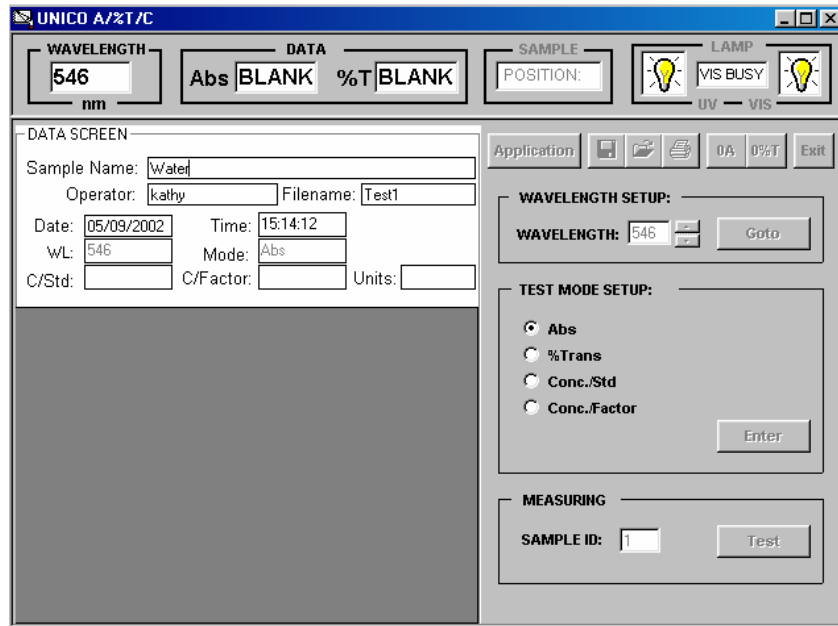

Figure-19 0A Blanking
Step 3: Click on **0A** button to **blank** the reference (Figure-19).